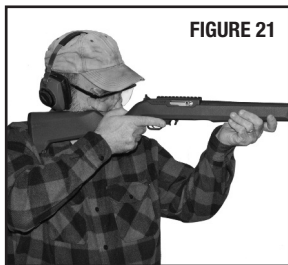

FIGURE 21
- Grasp firearm with one hand on forend and other hand on firearm pistol grip with index finger resting along and outside of trigger guard. Raise firearm and pull buttstock against your shoulder (FIGURE 21).